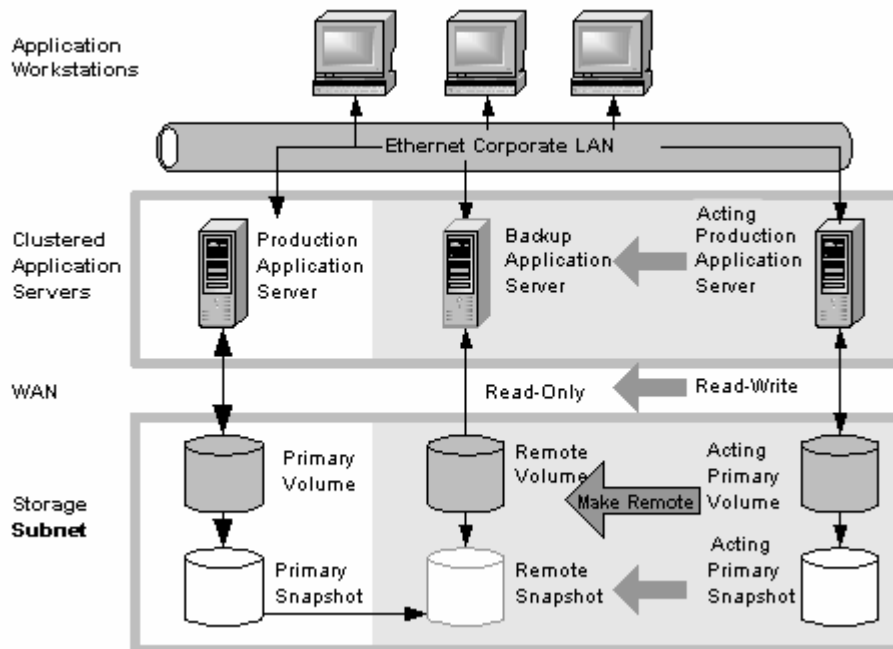

Figure 12 High availability configuration during failback
- Resume operations using the original production server, and then return the backup volumes to their original remote status, as illustrated in Figure 12 on page 44. This will require migration of data that was written to the backup volumes since the failure back onto the production volumes.